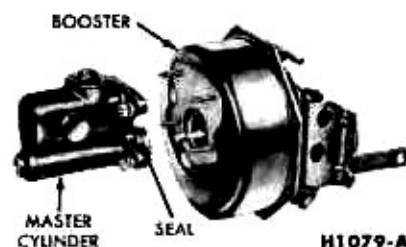

FIG. 4—Master Cylinder Removed
1. Remove the four master cylinder attaching nuts and lockwashers and lift off the master cylinder (Fig. 4).